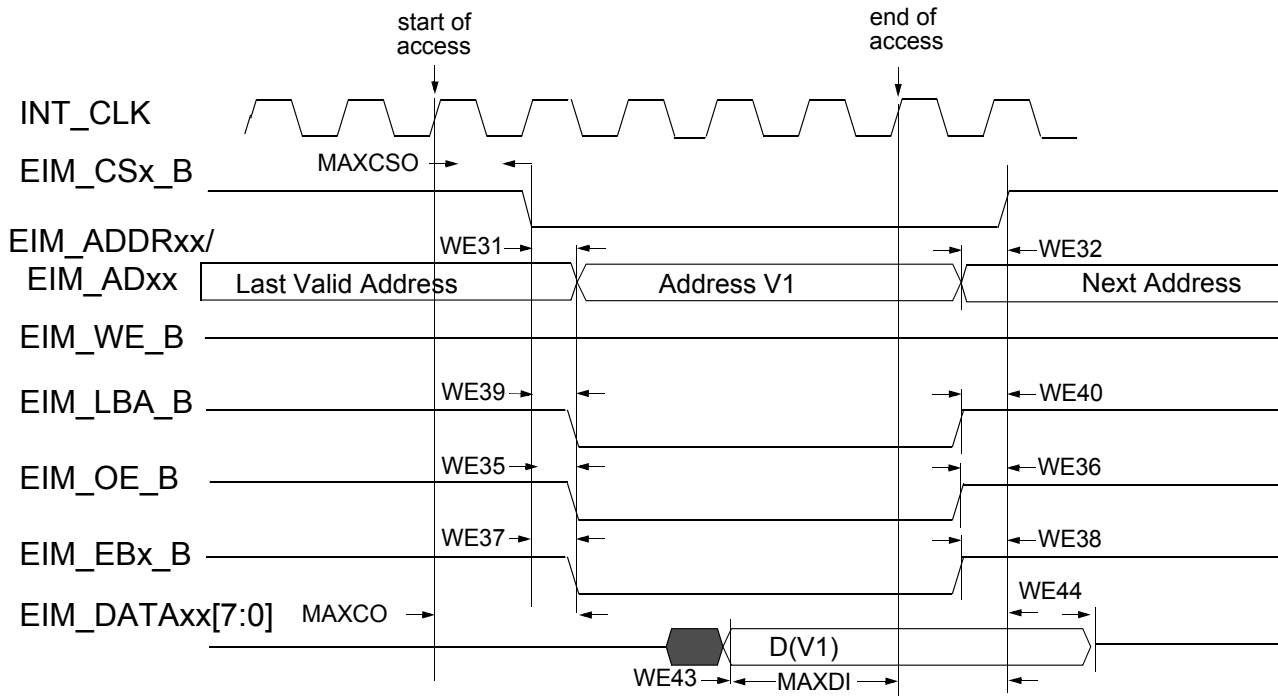
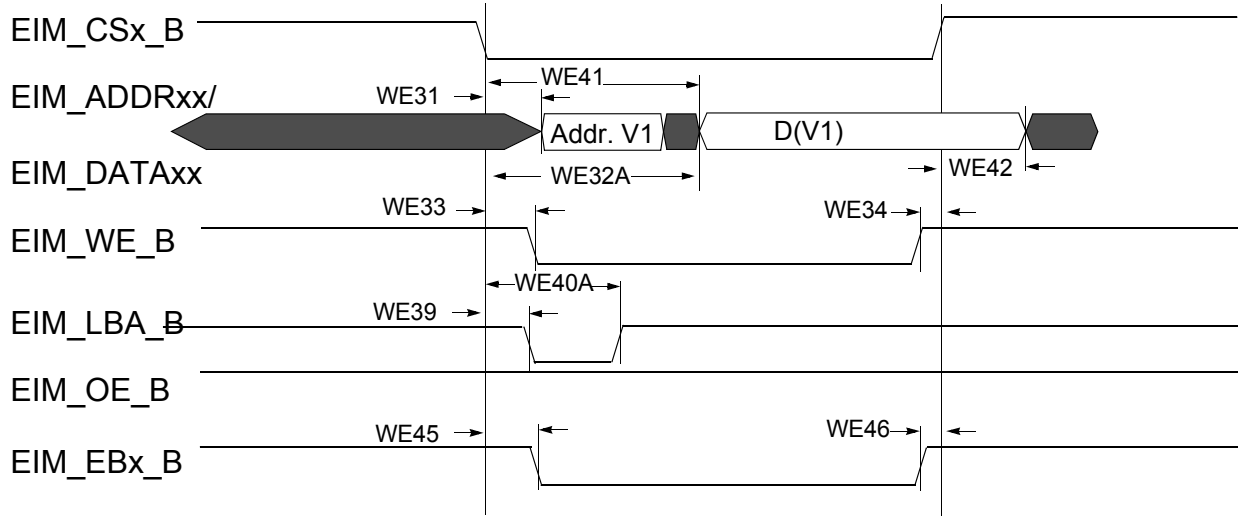

Figure 15. Asynchronous Memory Read Access (RWSC = 5)
Figure 18. Asynchronous A/D Muxed Write Access
Figure 15 through Figure 19, and Table 40 help to determine timing parameters relative to the chip select (CS) state for asynchronous and DTACK EIM accesses with corresponding EIM bit fields and the timing parameters mentioned above.
Asynchronous read & write access length in cycles may vary from what is shown in Figure 15 through Figure 18 as RWSC, OEN and CSN is configured differently. See the *i.MX 6UltraLite Reference Manual (IMX6ULRM)* for the EIM programming model.